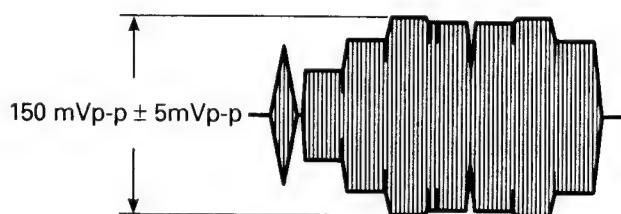

Fig. 2.2.11
3. Adjust VR181 (REC-C) so that the video chrominance signal level is $150 \text{ mVp-p} \pm 5 \text{ mVp-p}$. (Refer to Fig. 2.2.11)